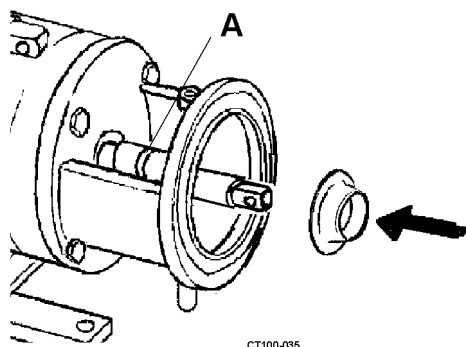

Figure 24 - Installing Deflector
6. Slide the deflector (large diameter end first) onto the shaft until it seats in the shaft groove. (See Figure 24 item A).
1. Slide the seal drive collar onto the stub shaft as shown in Figure 24.